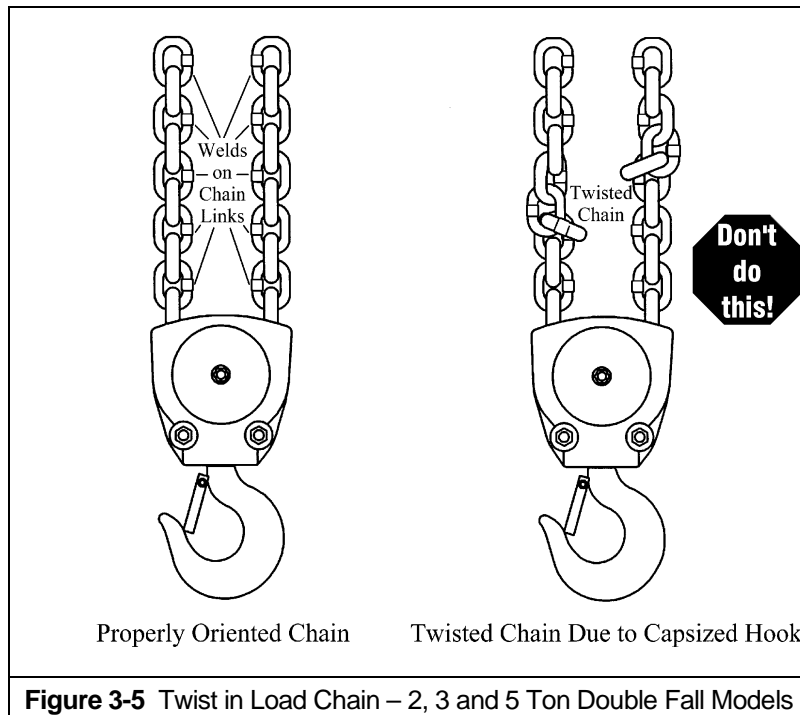

Figure 3-5 Twist in Load Chain – 2, 3 and 5 Ton Double Fall Models
- 3.2.6 **⚠️WARNING** Verify that the load chain is not twisted or tangled prior to operating the hoist. Make sure the bottom hook on 2, 3 and 5 Ton double fall models is not capsized. See Figures 3-5 and 3-6. Correct all chain irregularities before conducting the first hoist operation.